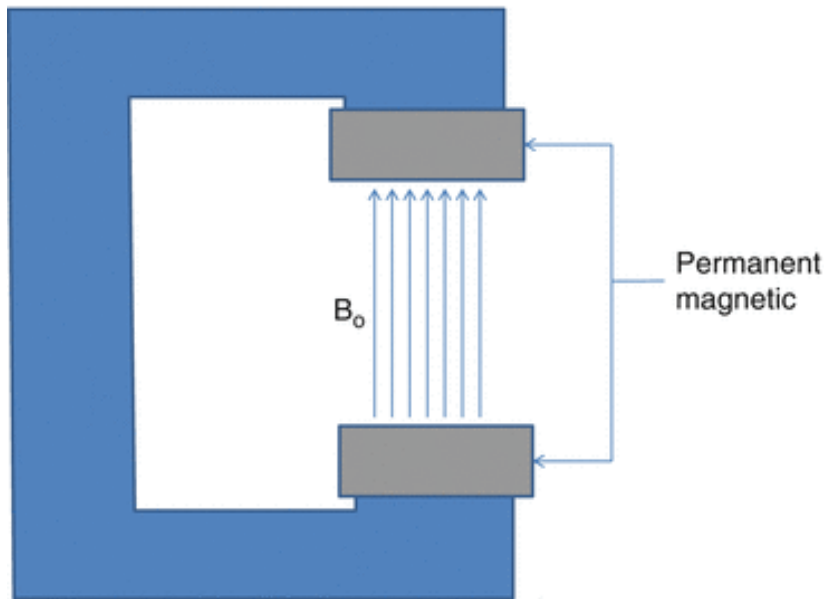

Figure 4: C-shaped permanent magnet
*Permanent magnets* have predominantly been designed with a vertical field format, with the field constrained between the top and bottom pole faces; this design requires a flux return path (figure 4).